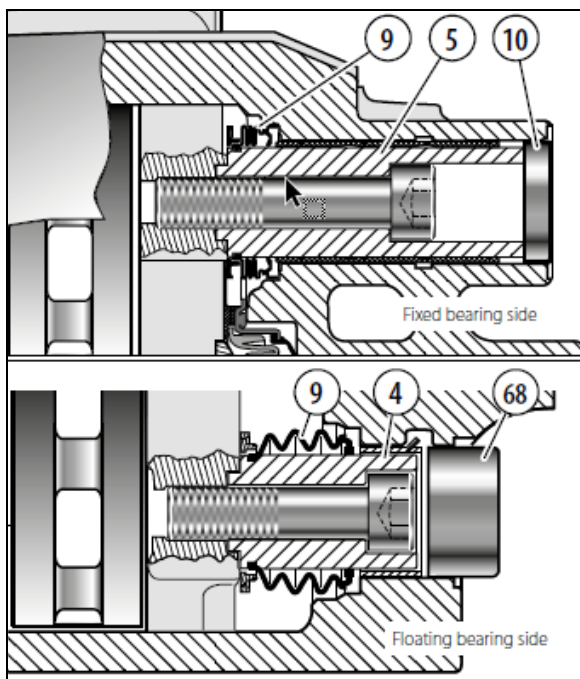

FIGURE 94: CHECKING OF GUIDE PIN AND SEALS
The floating bearing side with guide pin (4c, 4d or 4e) is sealed with inner boot (9c, 9d or 9e) and with cover (68c 68d or 68e). All variants (9), (10) and (68) must be free of any signs of damage (see Figure 94).